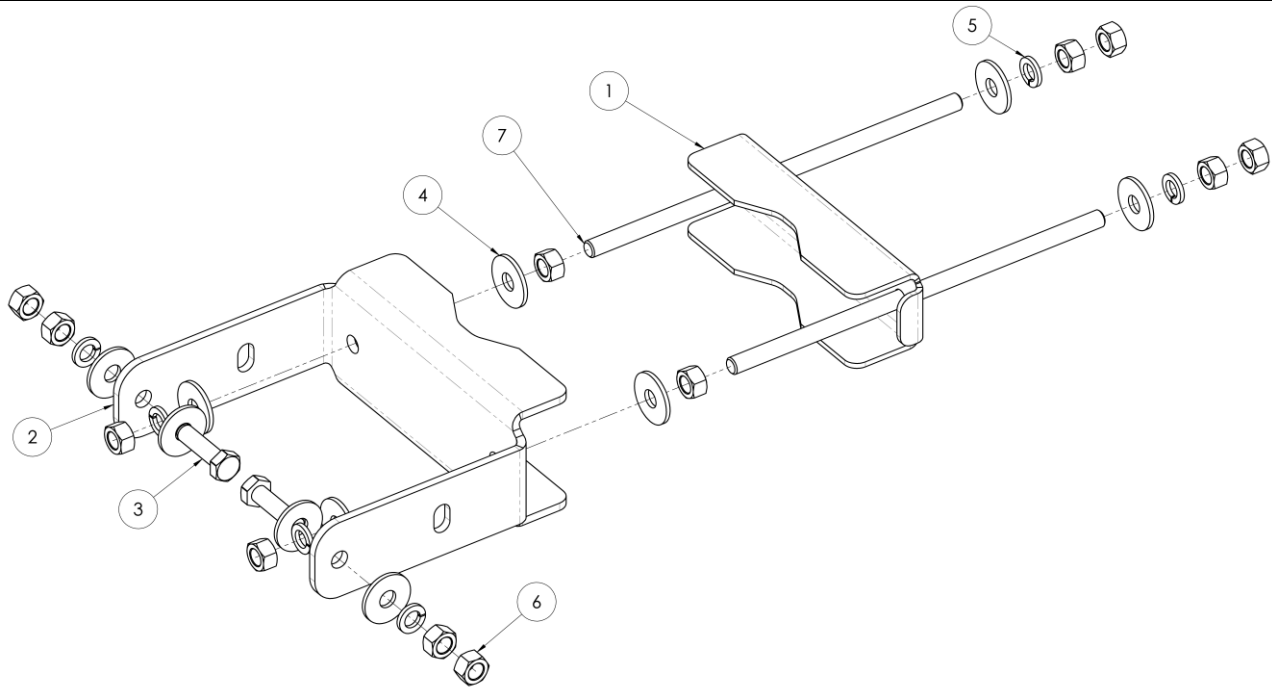

Fig. 1: Dual Position Mast Bracket Kit BOM
- To achieve 5° of downtilt, attach the dual position mast bracket, illustrated in Fig. 1, to the top hinge bracket of the antenna, as illustrated in Fig. 3 and 5. Refer to the materials list shown in Fig. 1, to properly identify the required items.
3	The bracket comes preconfigured for 5° of tilt, to configure the bracket for 0° tilt, (referring to 'Item List' in Fig. 1) remove items 3, 4, 5 and 6 from the assembly and place in the positions shown on the Dual Position mast bracket, as illustrated in Fig. 4.